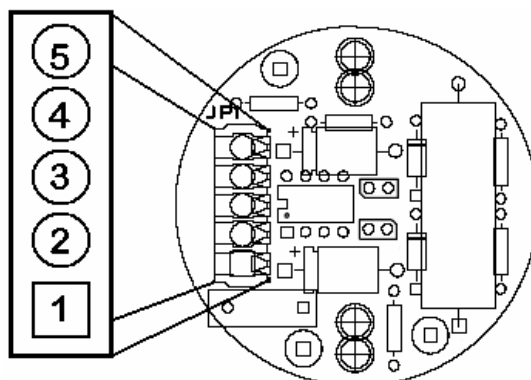

Figure III-8 : Detector board, pin numbering
13. Start x-ray emission and measure the tensions at connector JP1 on the detector board (see Figure III-8). Make sure the values fit those given in Table III-3. If they do not, check the cable between Detector board and Main board with an ohm-meter.